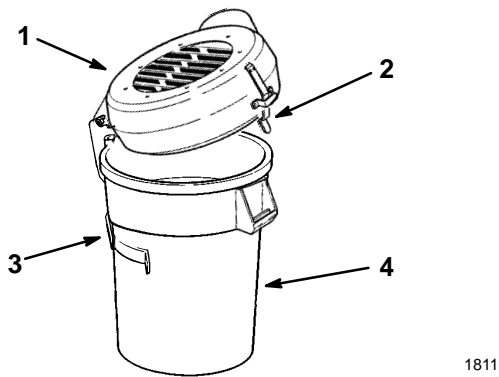

Figure 21
2. Open the latch and lift the top assembly to remove or look inside the canister. Remove the canister from the canister support and empty if full (Fig. 21).
3. Reinstall the canister in the canister support, then close and latch the top assembly (Fig. 21).